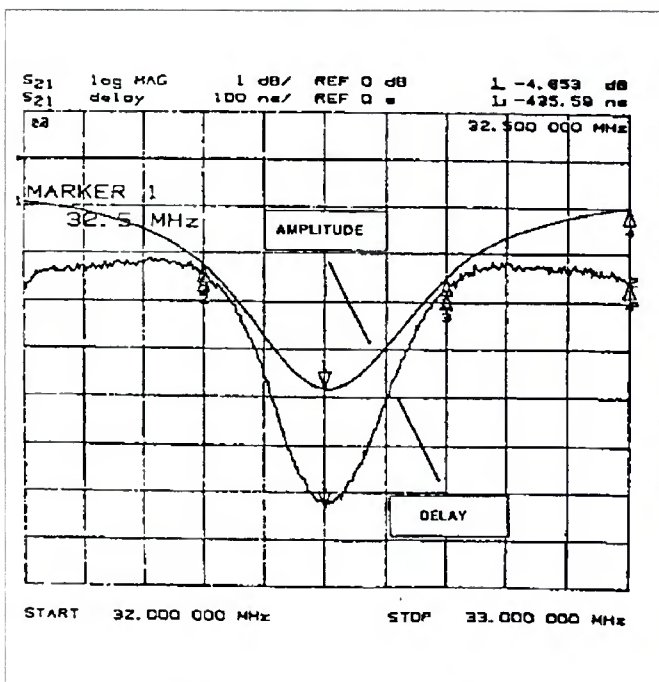
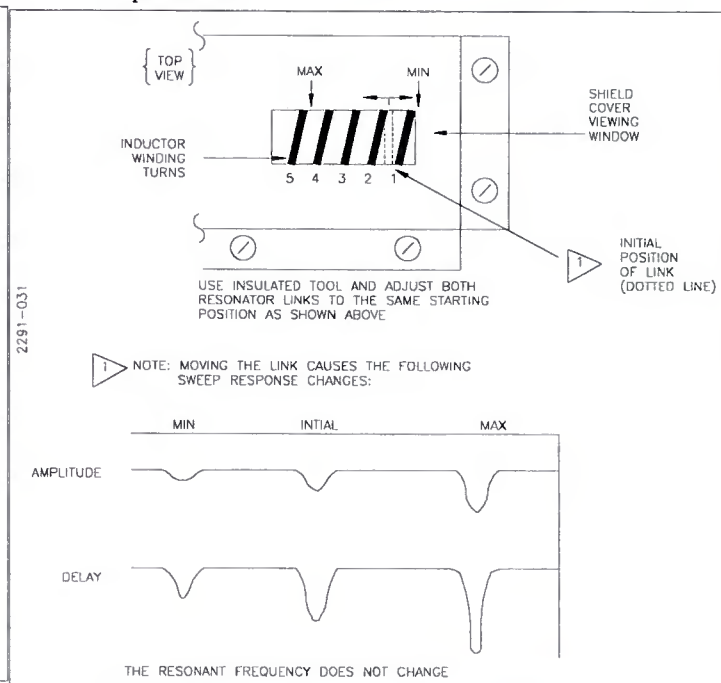

Figure 5-19. Typical Amplitude & Delay Aural Delay Corrector
Figure 5-20. Link Coupling Adjustment Aural Delay Corrector
- d. The amplitude dip in the frequency response curve caused by F1 and F2 should be about equal in amplitude. If not, then adjust the link coupling as shown in Figure 5-20 for equal amplitudes and with the typical levels shown in Figure 5-19.